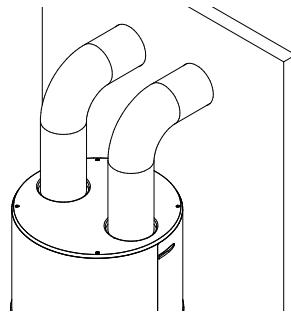

fig. 53 - Arrangement of air channels
**In many images of this document the position of the air ducts are schematized at the top and bottom, in reality for the purposes of correct installation we recommend positioning the ducts side by side (see fig. 53)**